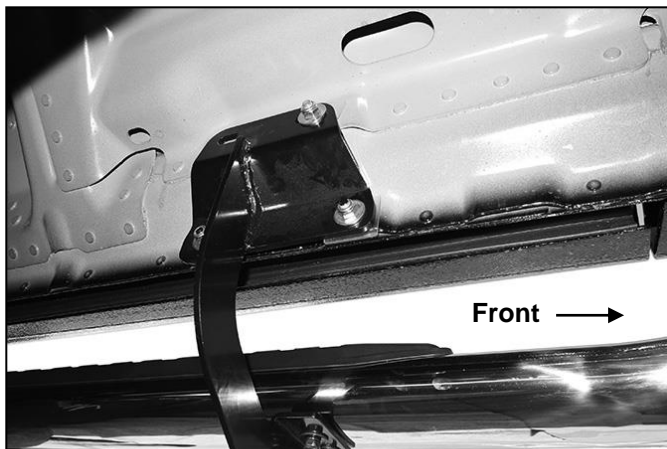

Fig 5
5. Select the Driver/left Side Step. **NOTE:** To determine correct Side Step, Step Pad is farther from front end of tube-see illustration on this page. Carefully position the Side Step onto the (2) Mounting Brackets. **IMPORTANT:** Do not slide, (front to back or rotate), the Side Step on the Brackets or damage to the finish may result. Attach the Side Step to the Mounting Brackets with (4) 8mm x 25mm Combination Hex Bolts, **(Figure 5)**. Do not tighten hardware.